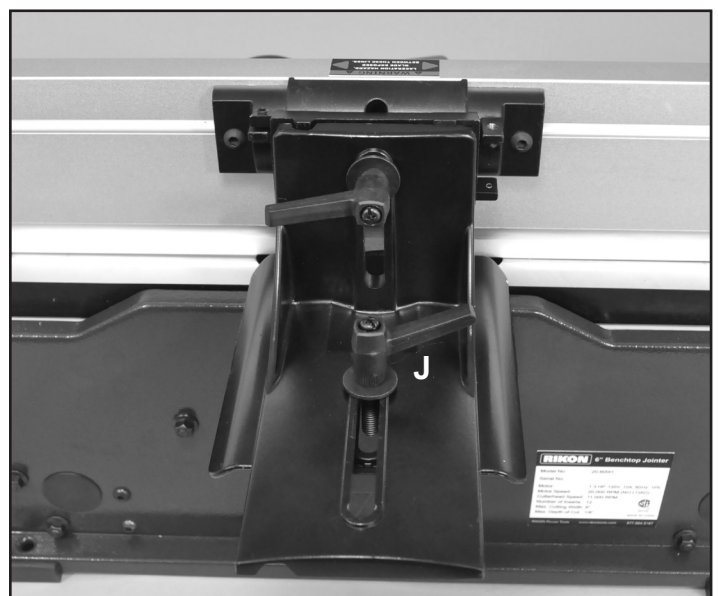

FIG. 4
4. Locate the Sliding Bracket & Fence Assembly onto the mounting bracket on the body of the jointer. Insert the tilt lock Lever Assembly (J) with the flat washer (B) in place. FIG. 4.